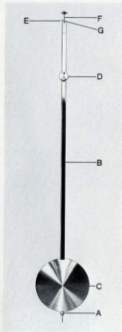
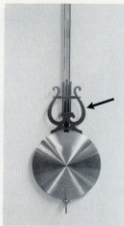
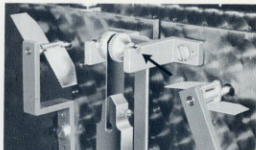
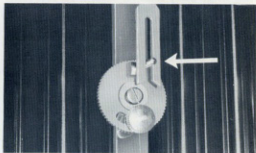

Fig. 6
Fig. 7
Fig. 8
Fig. 9
Assemble pendulum (Fig. 6). Remove adjusting nut (A) from rod (B). Slide rod through bob (C), making sure polished side of bob is on same side as the beat adjustment disc (D). (NOTE: On Model No. 250 insert lyre (Fig. 7) on pendulum rod before installing bob.) Replace adjusting nut. Screw on until top of bob reaches scratch mark on back of pendulum rod. Remove suspension spring screw (E). Insert suspension spring (F) in slot (G) and replace screw. Screw should be snug but not tight. Install pendulum in clock through front door. Hang T-bar in anchor bridge (Fig. 8). Insert beat adjusting pin in anchor fork (Fig. 9).